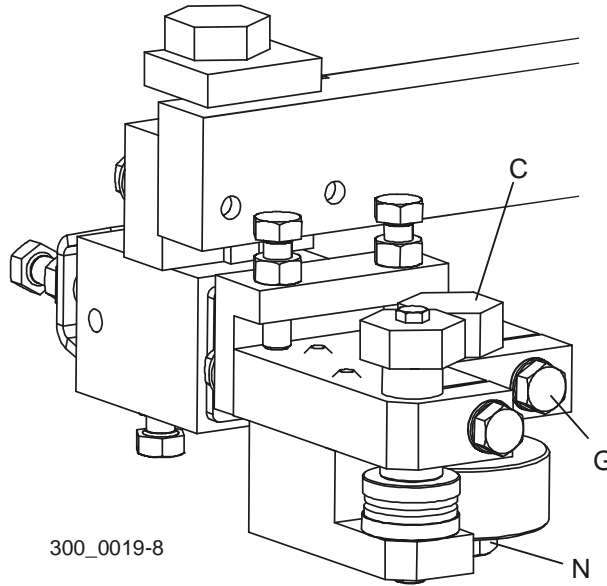

FIG. 5-13
3. Turn bolt (A) counterclockwise on each blade guide assembly up until the bottom guide disks touch the blade, but do not deflect it upward.
4. Turn bolt (F) clockwise to adjust the top guide disk on each blade guide assembly back down until it touches the blade, then back up 1/4 - 1/2 turn. Tighten clamp bolt (H).
See Figure 5-13. To adjust, loosen clamp bolt (G) and turn bolt (C) to move the roller toward or away from blade. Raise or lower the roller to avoid the blade contacting an existing groove in the roller. Retighten clamp bolt (G). **NOTE:** If the roller is completely grooved on one end, remove bolt (N) and flip the roller to use the other end. If both ends